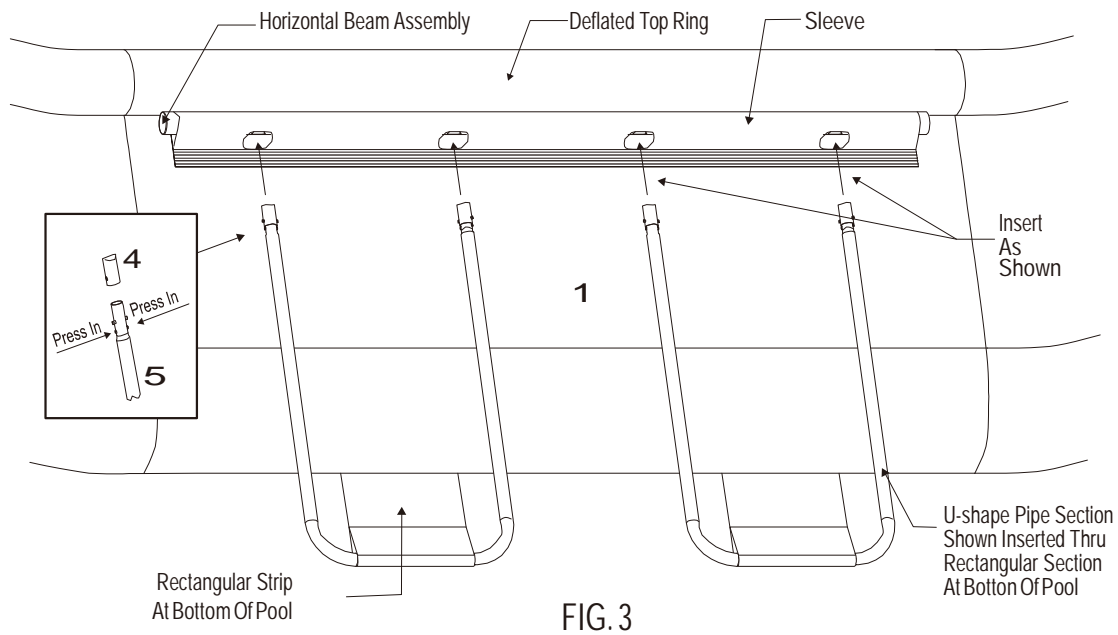

FIG. 3
6. Now insert the two U-Shape pipe sections through the end of the two rectangular strips at the bottom of the pool FIG. 3. Now, insert the capped ends of the U-Shape pipe into the holes in the Horizontal Beam assembly FIG. 3 depress the buttons pushing the Cap entirely into the horizontal beam until it stops.